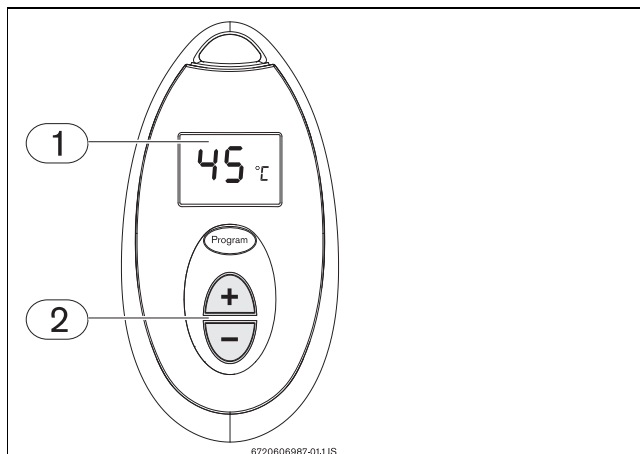

Fig. 14 Temperature adjustment
- Press the buttons  or  on the remote control (Fig. 14, pos. 2) until the required temperature appears on the remote control display (Fig. 14, pos. 1).